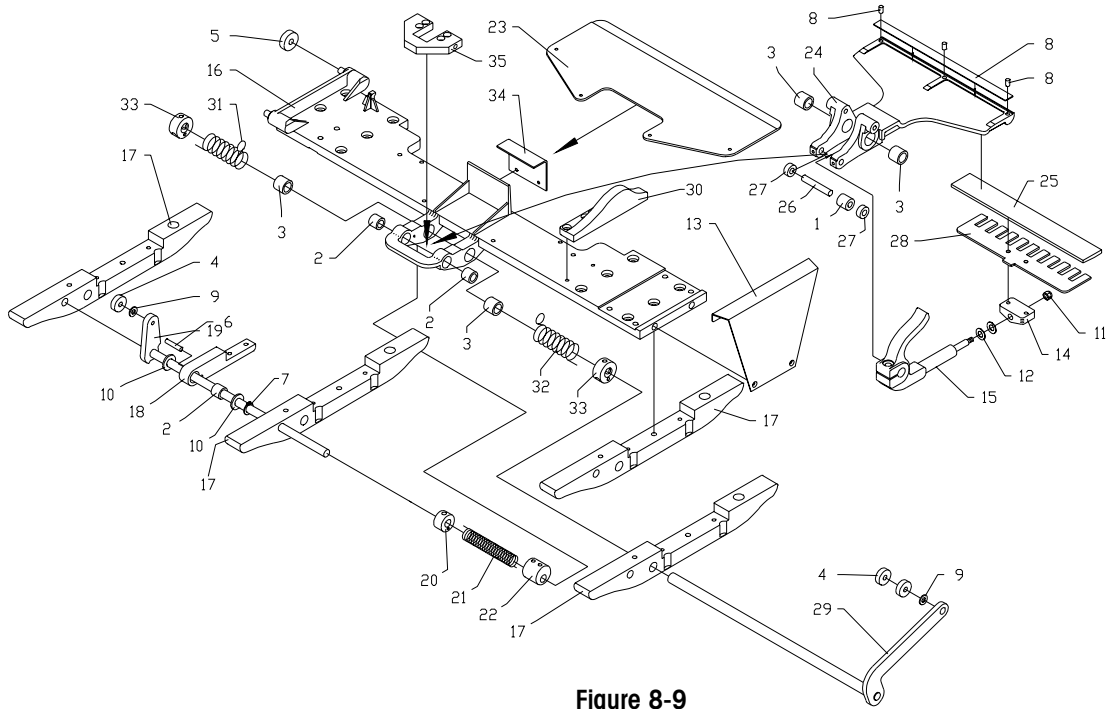

Figure 8-9
4. Remove the two screws holding the sensor flag (item 13 in Figure 8-9) in place. Note that there is an access hole in the machine frame near the upper left corner of the infeed opening.
3. Remove the M4 self-locking nut (item 11 in Figure 8-9) and flat washer.
4. Remove the Center Clamp film gripper (item 28 in Figure 8-9) with rocker bearing (item 14 in Figure 8-9) attached.
7. Make sure that the two spring washers (item 12 in Figure 8-9) are installed as shown.
3. Loosen the film gripper mounting lever (item 15 in Figure 8-9) screw. Caution: The gripper actuator lever is under spring tension. Loosening this screw relieves the spring tension.
4. Remove the front most ski (item 17 in Figure 8-9).
5. Loosen the set collars (item 33 in Figure 8-9) on the film gripper control rod (item 29 in Figure 8-9).
6. Remove the Center Clamp film gripper (item 28 in Figure 8-9) with rocker bearing (item 14 in Figure 8-9) attached. Also remove the two spring washers. Slide out the film gripper control rod.
3. To replace the rear torsion spring (item 31 in Figure 8-9), carefully loosen the set collars (item 33 in Figure 8-9) for both springs and the film-gripper mounting lever (item 15 in Figure 8-9). Caution: the set collars are under spring tension!
5. Remove the front most ski (item 17 in Figure 8-9).
6. Slide out the film gripper control rod (item 29 in Figure 8-9) just enough to remove the spring and set collar.
9. To replace the front torsion spring (item 32 in Figure 8-9), carefully loosen the set collars (item 33 in Figure 8-9) for both springs and the film-gripper mounting lever (item 15 in Figure 8-9). Caution: the set collars are under spring tension!
11. Remove the ski closest to the front (item 17 in Figure 8-9).
12. Slide out the film gripper control rod (item 29 in Figure 8-9).
3. Remove the rear Center Clamp ski (item 17 in Figure 8-9) from the Center Clamp assembly.
4. Remove the eccentric drive lever pivot arm (item 18 in Figure 8-9).
5. Loosen the set collar (item 20 in Figure 8-9) on the eccentric drive lever spring. Caution: the set collar is under spring tension!
6. Loosen the eccentric (item 22 in Figure 8-9) by loosening the two set screws.
7. Remove the eccentric drive lever (item 19 in Figure 8-9).
7. Remove the eccentric drive lever (item 19 in Figure 8-9) far enough to remove the eccentric.